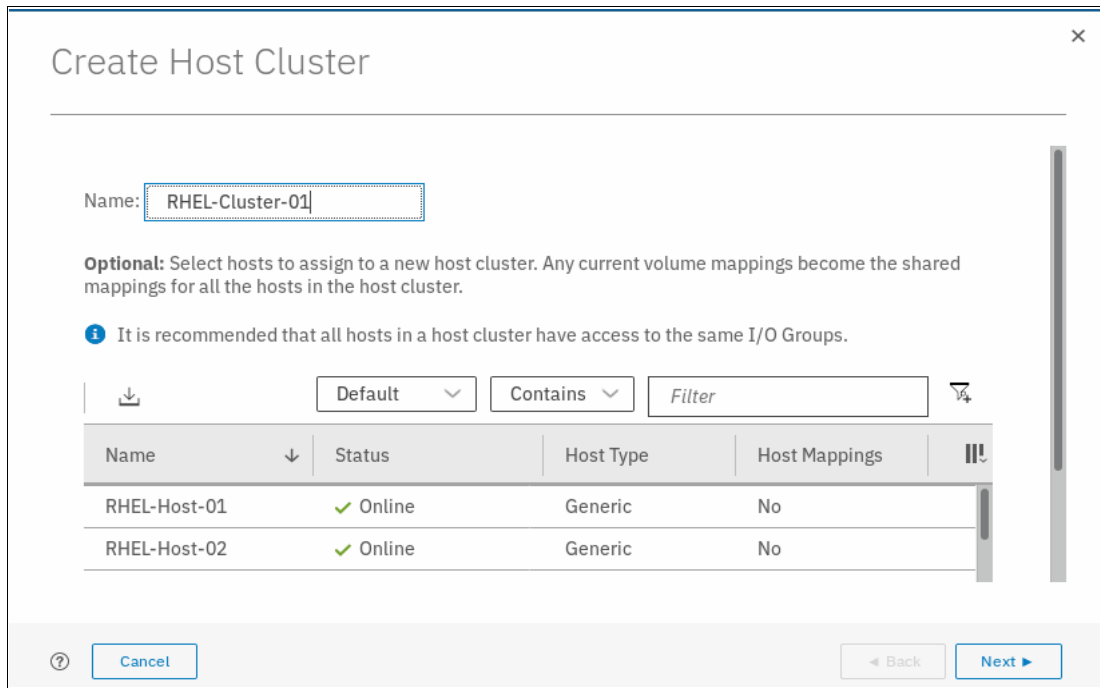

Figure 5-72 Defining Host Cluster
3. Enter the name of the Host Cluster that you want to create, as shown in Figure 5-72.